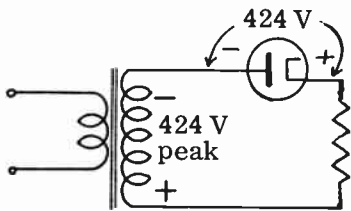

FIG. 7-12A. PEAK INVERSE VOLTAGE OF A HALF-WAVE RECTIFIER.
**PEAK INVERSE VOLTAGE.** A rectifier tube does not conduct during one-half of the input AC cycle. This is when the plate is negative with respect to the cathode. During this non-conducting time, there will be a high negative voltage on the plate, especially at the peak point of the alternation. Fig. 7-12A illustrates this condition. The voltage across the transformer secondary is 300 volts rms or 424 peak volts (peak voltage =  $1.414 \times$  rms voltage). The 424 peak volts appear across the tube and is referred to as the **PEAK INVERSE VOLTAGE**, or the **PEAK NEGATIVE VOLTAGE**. The **PEAK INVERSE VOLTAGE RATING** is the maximum voltage that a rectifier tube can safely withstand between its plate and cathode when the tube is not conducting. Therefore, in the case of a half-wave rectifier, the peak inverse voltage is equal to the secondary voltage multiplied by 1.414.